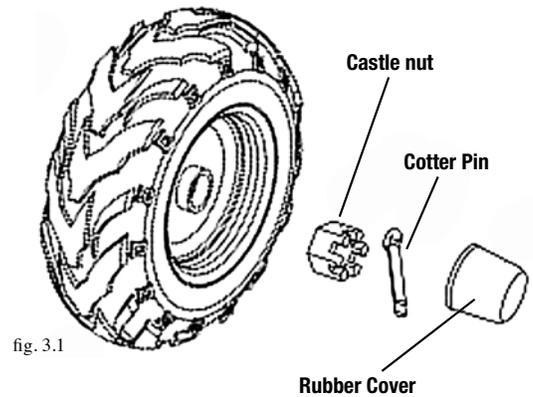

fig. 3.1
A. Front Wheel Replacement (see figure 3.1)